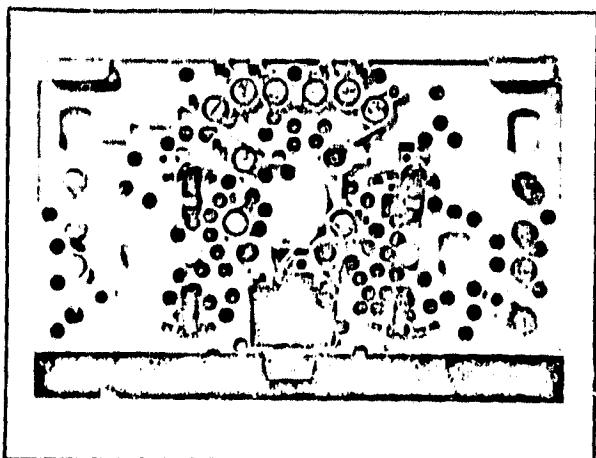

FIG. 13—CONNECTING 135734A LEADWIRES.
1. Route 1 indicator light leadwire to the R or RH subbase terminal, and fasten beneath the terminal screw (fig. 13).